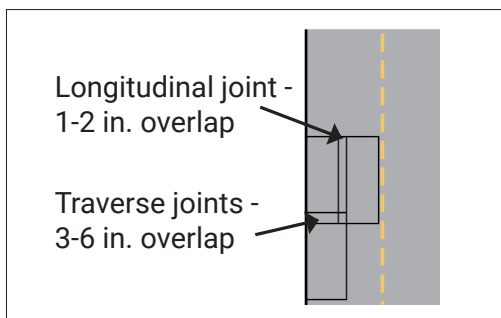

Figure 4: Overlapping GlasGrid across transverse or longitudinal joint
- » Transverse joints should be overlapped in the direction of the paver by 3-6 in. (75 to 150 mm); longitudinal joints should be overlapped by 1-2 in. (25-50 mm). The overlapping of two lengths of GlasGrid is shown diagrammatically in Figure 4.